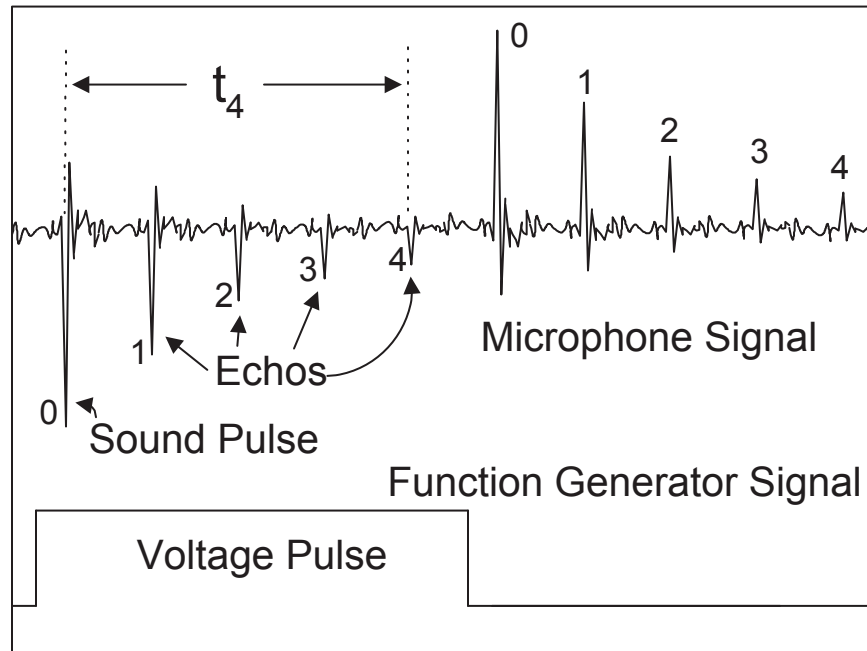

Figure 3.3: Sound tube signals on oscilloscope.
- Adjust the vertical and horizontal scales of the oscilloscope to obtain a display similar to Fig. 3.3. The square wave represents a voltage pulse applied to the transducer — you may be able to hear the clicking sound it produces. The microphone output should show a decaying series of sharp spikes — a pulse followed by a series of echoes within the tube — along with other noise. The time between these spikes is the time needed to travel twice the length of the tube. To help you be sure you are seeing the correct spikes, try adjusting the square-wave frequency — the positions of these spikes won't change, because they depend on the speed of sound, not the frequency of the clicks.
- Drag the time cursors to determine the time delay between the sound pulse and a later echo; for example, t_4 as illustrated in Fig. 3.3, is the time of travel for four round trips of the sound made by the speaker.
- Calculate the mean time for a pulse to travel the length of the tube; in Fig. 3.3 the mean time t is $t_4/8$ because the pulse traveled the tube length eight times (four round trips). The fractional uncertainty ($\frac{\delta t}{t}$) should be about .03 for this measurement.